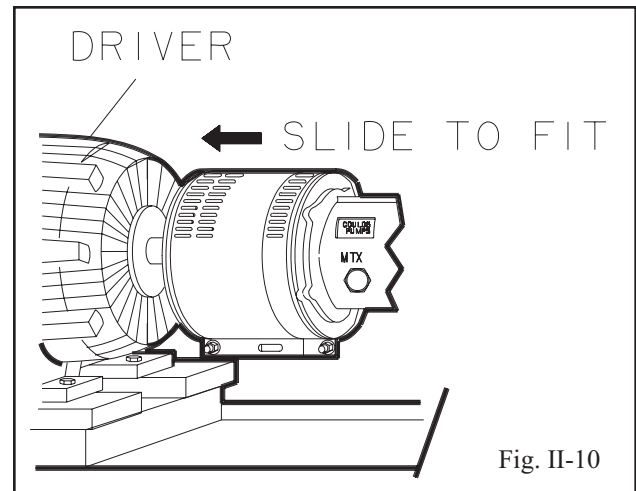

Fig. II-10
6. Adjust length of coupling guard to completely cover shafts and coupling as shown in Fig. II-10 by sliding coupling guard half (driver end) towards motor. After adjusting guard length, secure with bolt, nut and two washers through the slotted holes at the center of the guard and tighten. Check all nuts on the guard assembly for tightness.
1. Remove nut, bolt, and washers from center slotted hole in the coupling guard. Slide motor end coupling guard half towards pump (Fig. II-10).